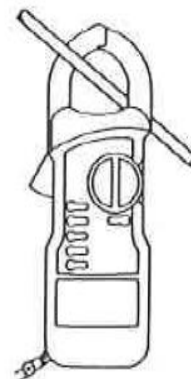

Fig.1
**Note :** Clamp around only one conductor of the circuit to be measured. (See Fig.1)